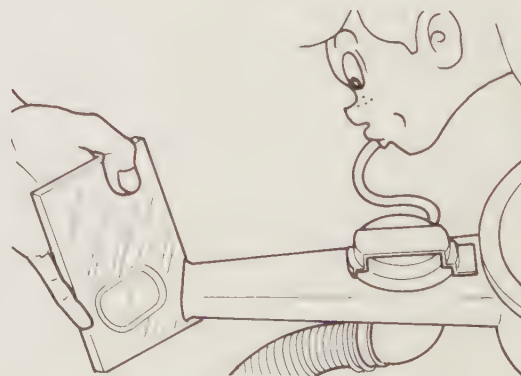

Fig. 3.46. Checking the valve position
- b) Disconnect the motor vacuum inlet vacuum hose and connect a piece of tube to the inlet. Apply vacuum by sucking the tube, as shown in Fig. 3.46 and check the position of the air control valve. It should be the opposite of that described in (a) above.